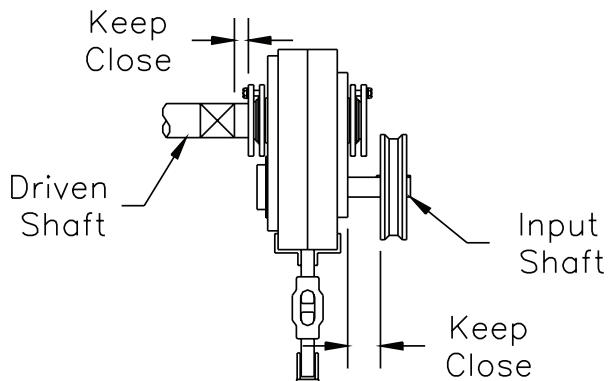

Figure 2 - Reducer and Sheave Installation
4. Install sheave on input shaft as close to reducer as practical (see Figure 2).